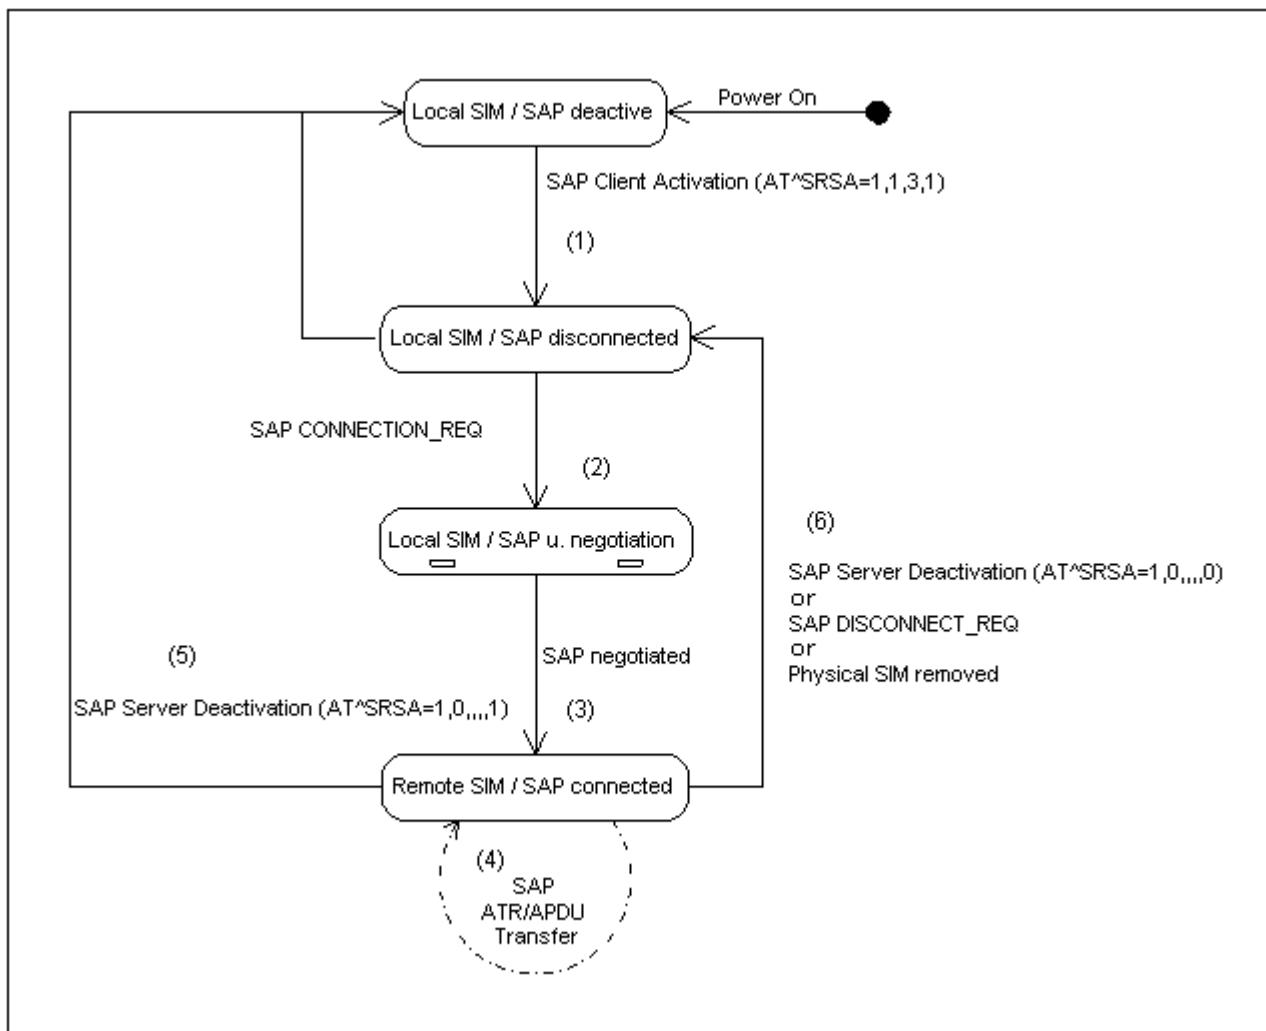

Figure 15.3: SIM usage states of SAP server
After SAP client activation (see (1) in Figure 15.3, SIM usage states of SAP server) the ME starts sending the SAP message CONNECTION_REQ. However, the client will still use its local SIM card until a server responds and the parameter negotiation with subsequent ATR access has been accomplished successfully.